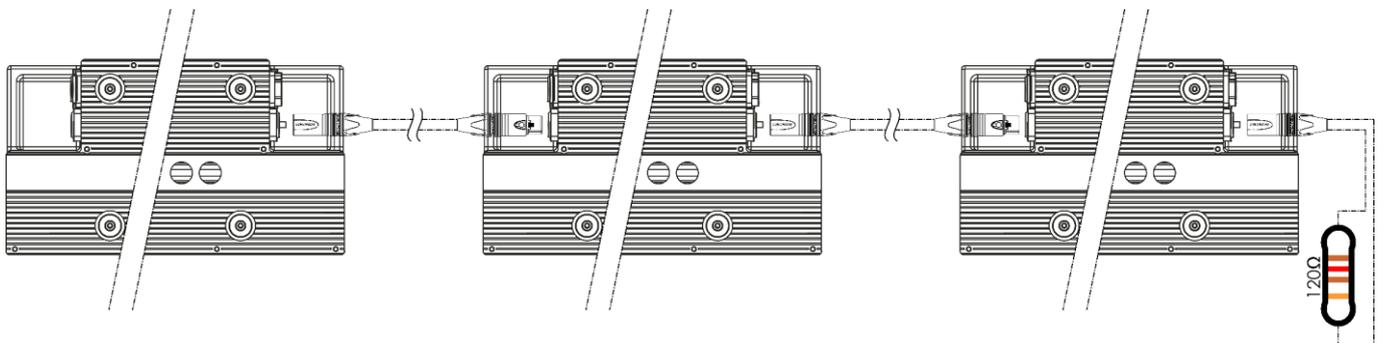

Fig. 08
- 02) Repeat step 1 to connect all devices as shown in Fig. 08. The first connected device will be automatically recognized as the master device.